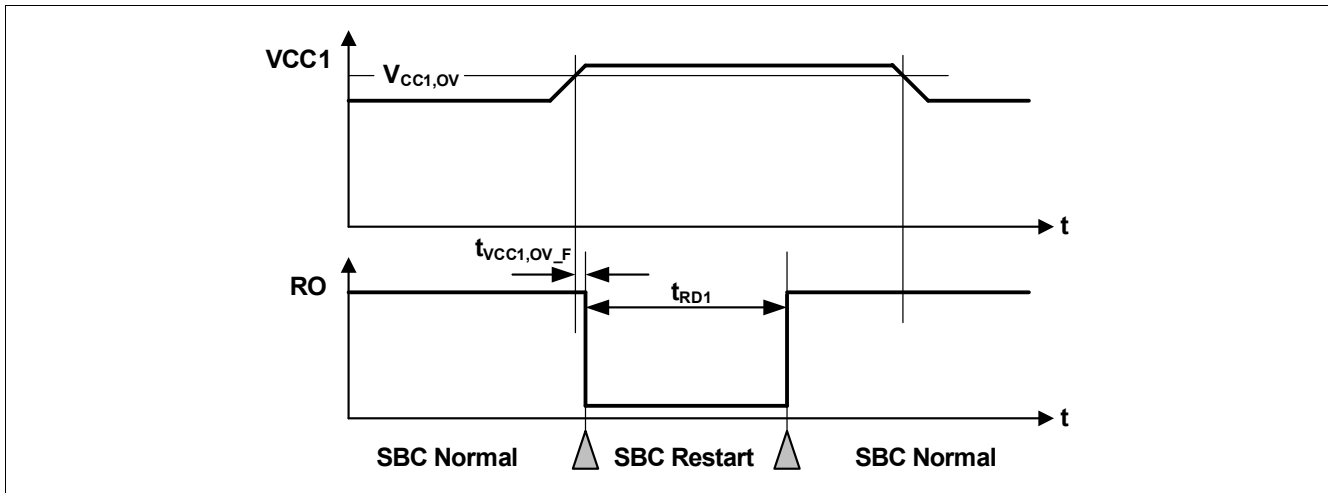

Figure 58 VCC1 Overvoltage Timing Diagram
- If the bit **VCC1_OV_RST** is set and **CFG_P** = '1', then SBC Restart Mode is entered. The FOx outputs are activated. After the reset delay time (t_{RD1}), the SBC Restart Mode is left and SBC Normal Mode is resumed even if the VCC1 overvoltage event is still present (see also **Figure 58**). The **VCC1_OV_RST** bit is cleared automatically;